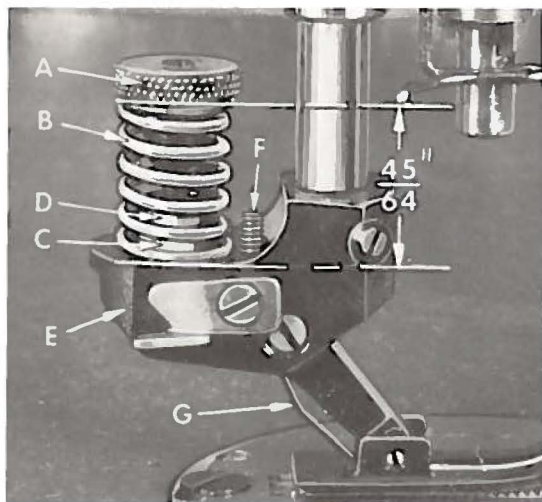

Fig. 18C
Remove nut (A, Fig. 18C) and presser spring (B) of the feeding presser foot and adjust stop nut (C) so that when the presser foot is pushed forward, the rear of the needle slot will not touch the needle. Lock in position with lock nut (D). Replace
Lift feeding presser foot and check to see if bottom is parallel to throat plate. Should adjustment be necessary, remove the presser foot from the machine and loosen screw in bottom of presser foot shank to reposition leveling spring (G, Fig. 18C) as required to obtain proper position. Retighten screw.